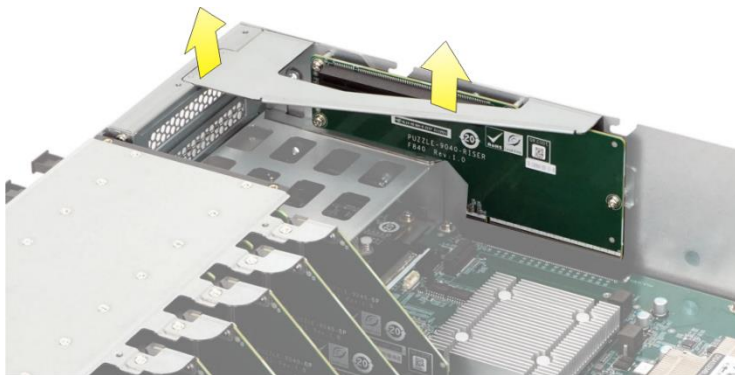

Figure 3-4: Riser Card Assembly Removal
Step 3: Lift the riser card assembly to remove it from the system (see Figure 3-4).